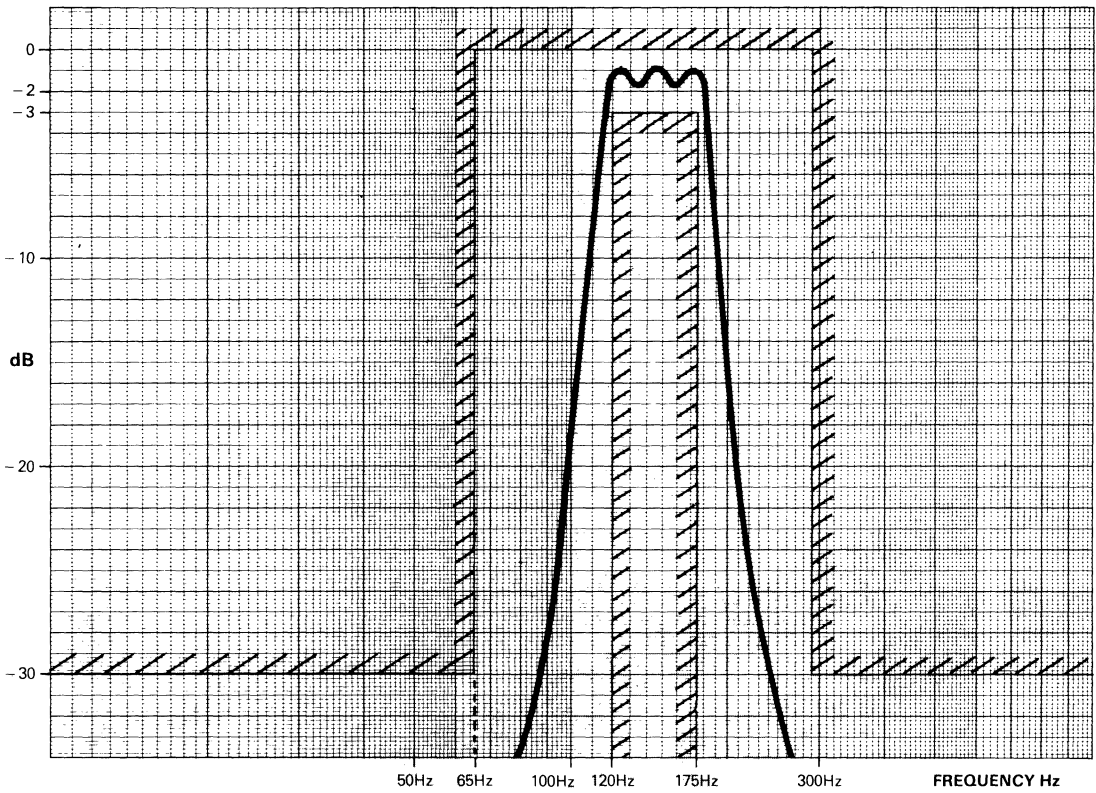

Fig. 5 Typical data bandpass filter frequency response versus R2000 filter specification.
2. Absolute ripple — see Fig. 5.